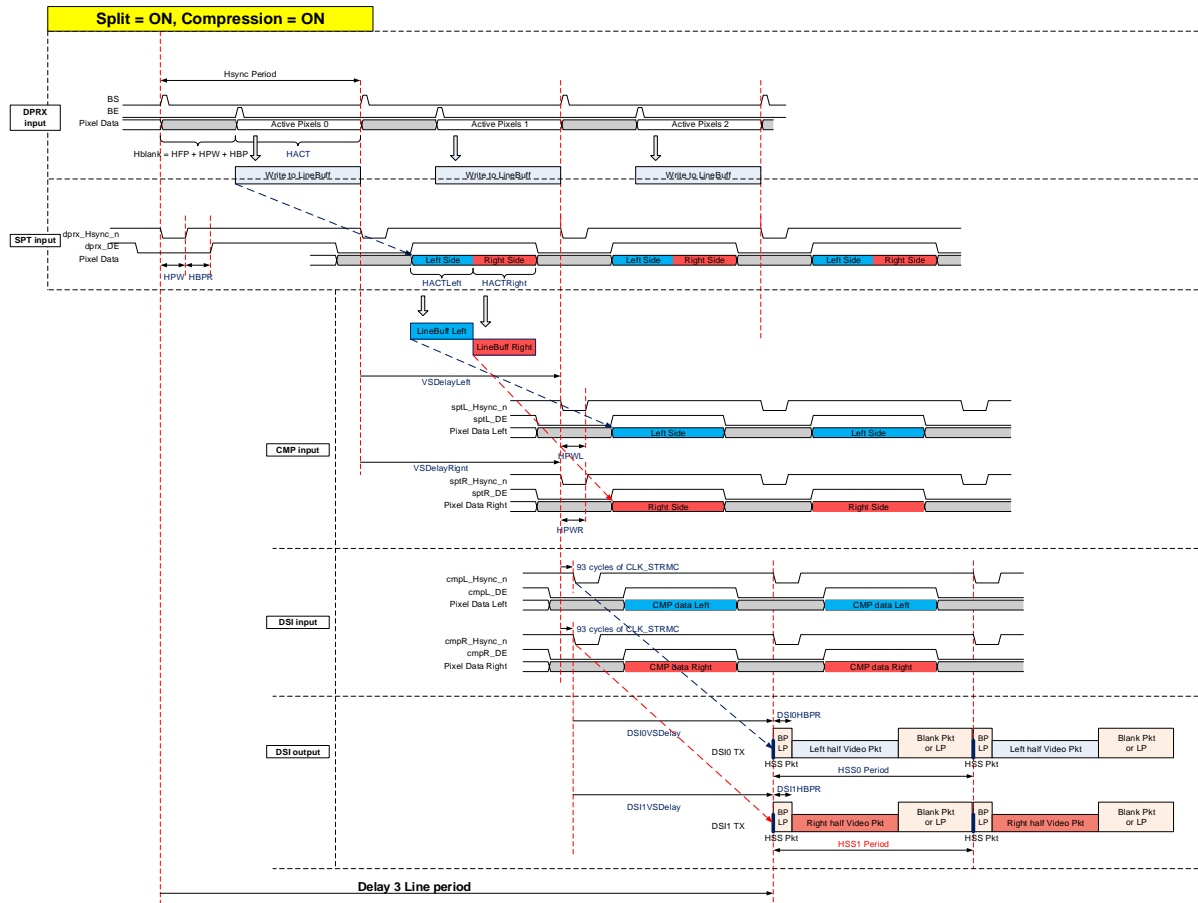

Figure 4-17 Pixel data flow for Dual DSI Link with Compression
2. The skew between DSI0 and DSI1 can be programmed by register (DSI0VSDelay/DSI1VSDelay and DSI0HBPR/DSI1HBPR shown in Figure 4-17)